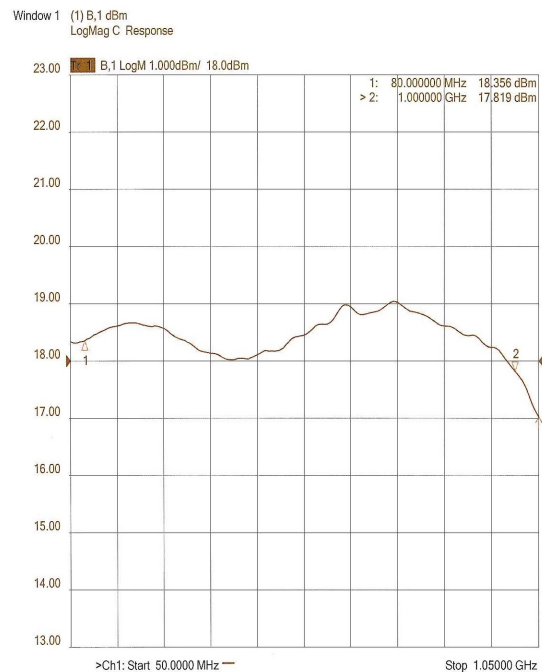

Figure 4-3. Typical Module Response
- If the gain is slightly low (i.e., several dB below typical), try disconnecting the inputs from the A6 and A7 Final Module one at a time, then reconnect them. Note the difference in response when disconnecting the module; if any module causes less of a change in gain than the others, check the module and the coaxial cable associated with that module. Typical module response is shown in Figure 4-3.